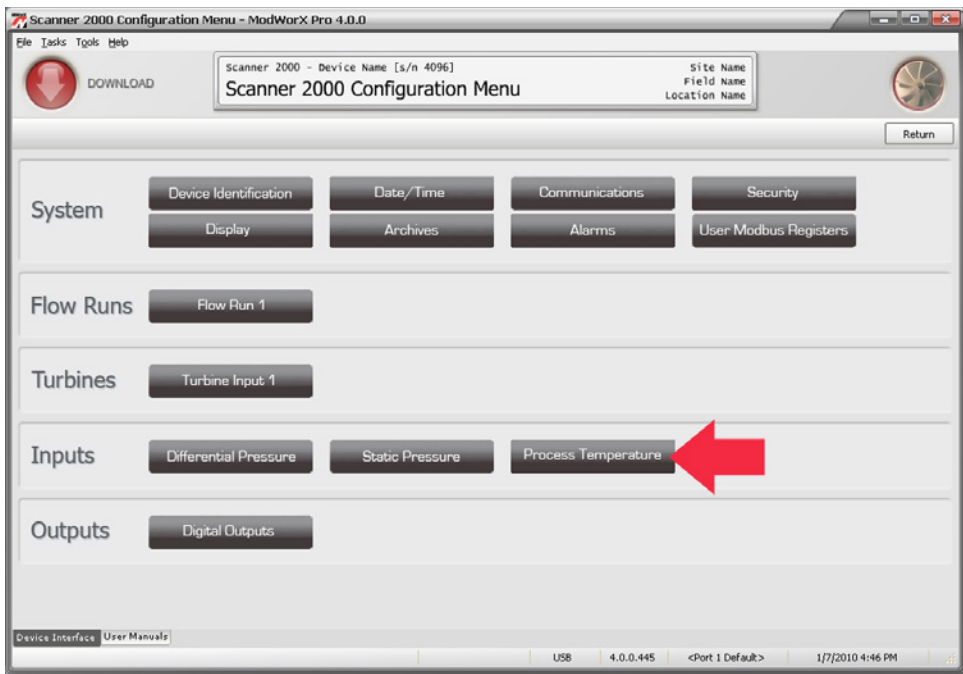

Figure 6.2
2. Then, click the appropriate input in the Inputs section of the Configuration Menu screen (Figure 6.2, page 74).